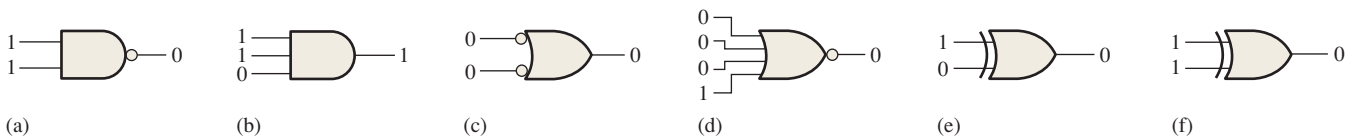

FIGURE 3-92
39. Examine the conditions indicated in Figure 3-92, and identify the faulty gates.